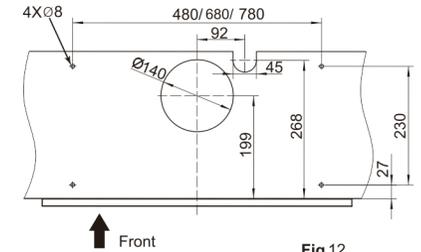

Fig.12
- Drill a hole of 140mm diameter, 4X $\varnothing 8$ mounting holes and one clearance for power cord on the cabinet board, respecting the distance indicate in Fig.12 .